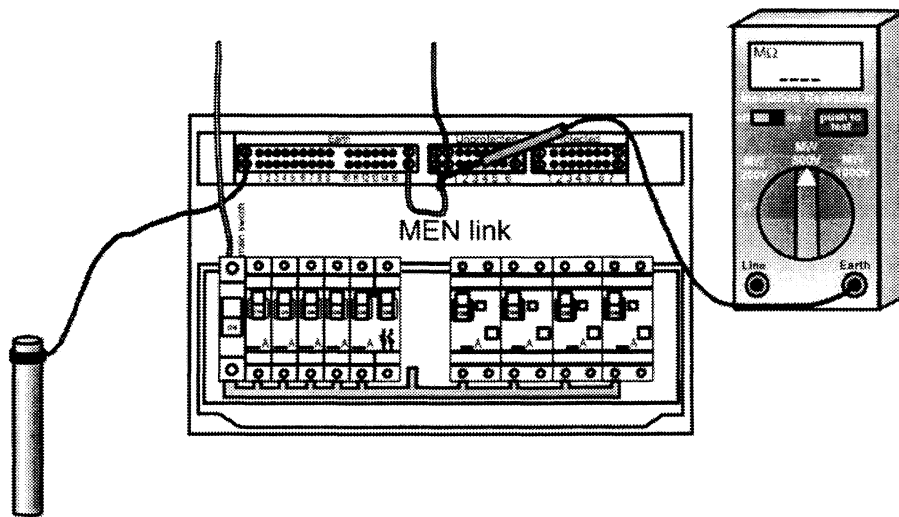

Figure 12.2 Measuring insulation resistance of final sub-circuits
- Draw the circuit arrangement for performing the test in Figure 12.2.